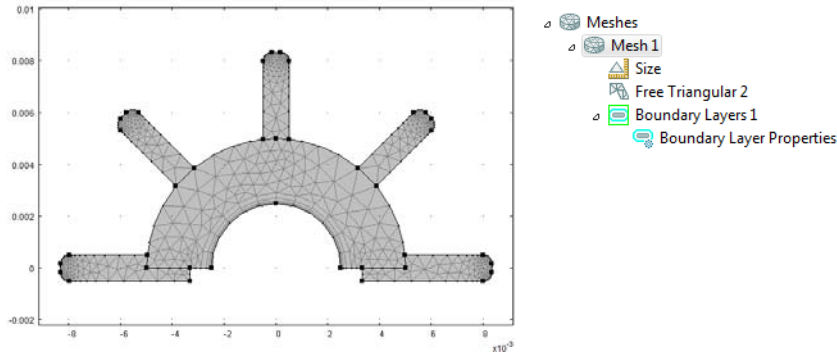

Figure 19-8: Adding boundary layer elements.
- 2 Click the **Boundary Layer Properties** node () and in the settings window, select the boundaries where boundary layers should be applied. See Figure 19-8.